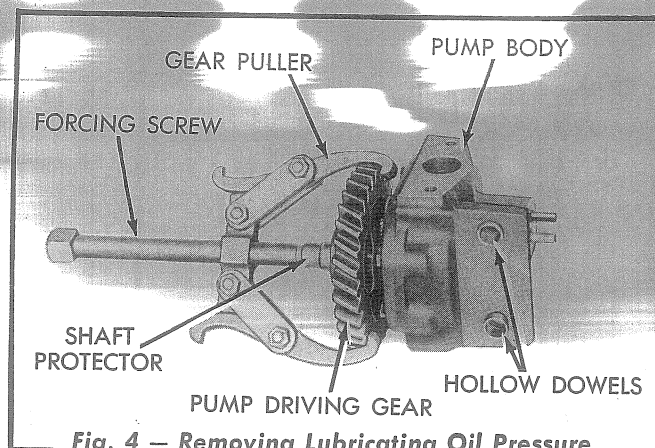

Fig. 4 — Removing Lubricating Oil Pressure Pump Driving Gear
1. Thoroughly wash the pump assembly and remove the roll pin from the hub of the driving gear. Using a puller as shown in Fig. 4, pull the driving gear from the pump shaft. Remove the "Woodruff" key from the shaft, and using a hone or file, remove any burrs from the shaft.